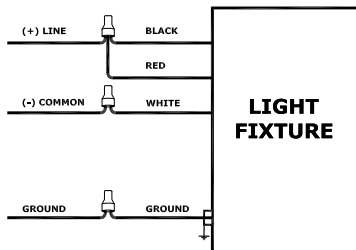

Fig. 5
2. For single circuit operation, black and red wires can be connected together. Follow wiring diagram as in fig. 5.